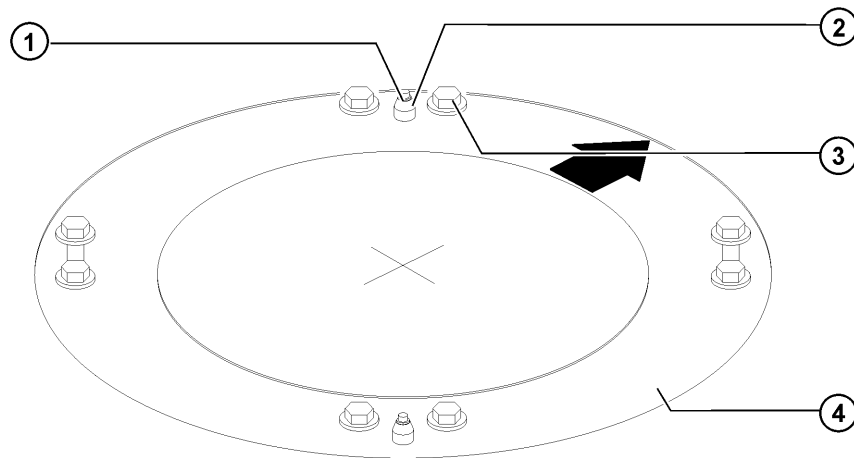

Fig. 8-2: Installing the machine frame mounting assembly
1. Clean the mounting surface (>>> Fig. 8-2) of the robot.